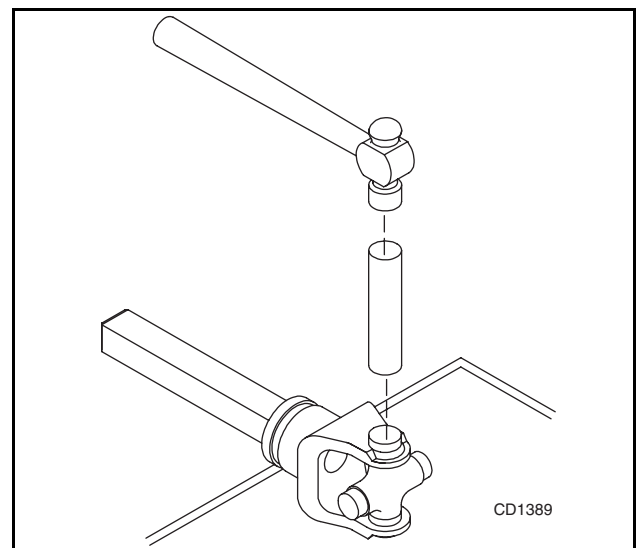

Figure 18
2. Seat cups by placing a drift or socket (slightly smaller than the cup) on cup and rapping with a hammer. See Figure 18. Install snap ring and repeat on opposite cup.